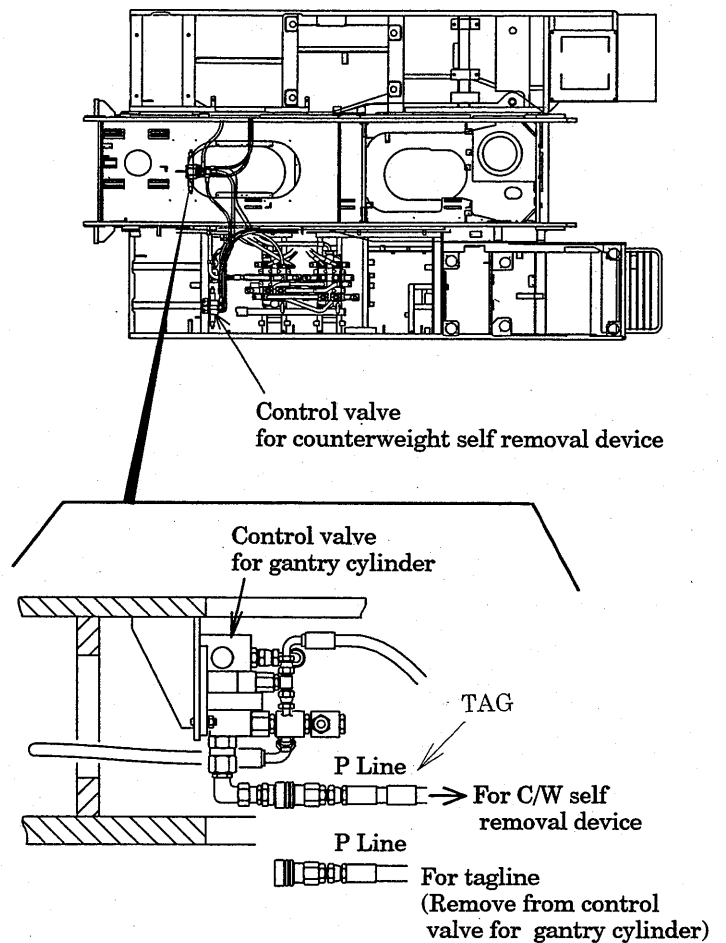

Fig 10-7
- (1) If the hydraulic tagline (optional) is equipped, replace the P line coupler for tagline with that for the counterweight self removal device (Fig. 10-7). Check that the P line coupler is securely connected.
(4) If the hydraulic tagline (optional) is equipped, switch the P line coupler to the original connections (See Fig. 10-7).